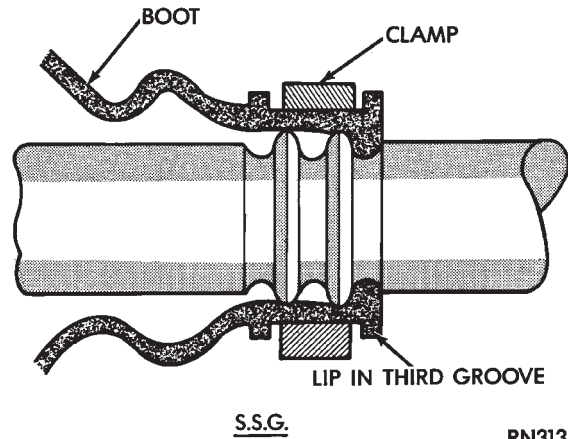

Fig. 14 Boot and Clamp Positioning S.S.G.
- (1) Slide small clamp onto shaft.
- (2) Position small end of boot over interconnecting shaft with lip of boot in third groove, towards center of interconnecting shaft (Fig. 14).